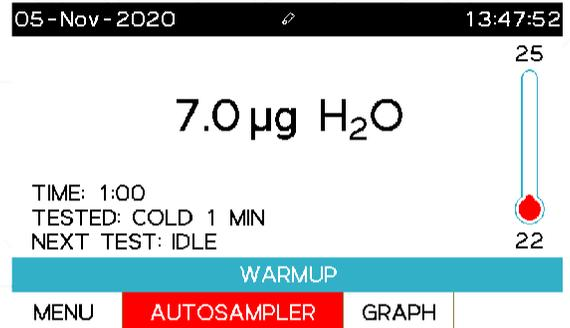

Figure 5
- Select the Autosampler button from the VPXL main menu (fig. 5).